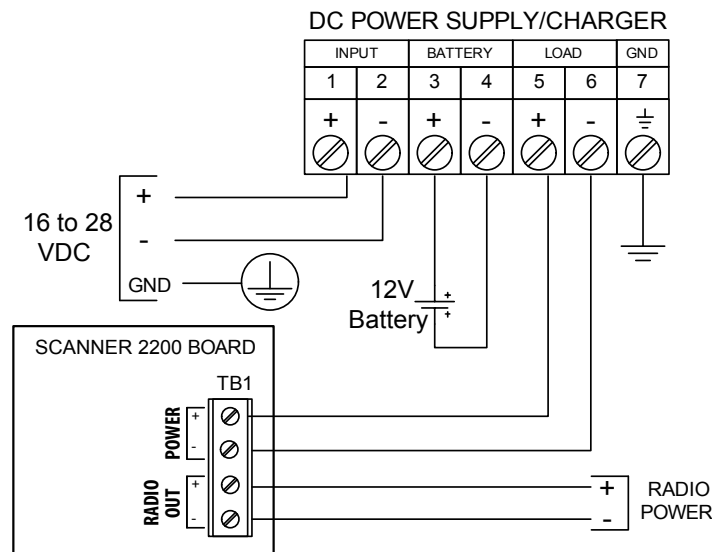
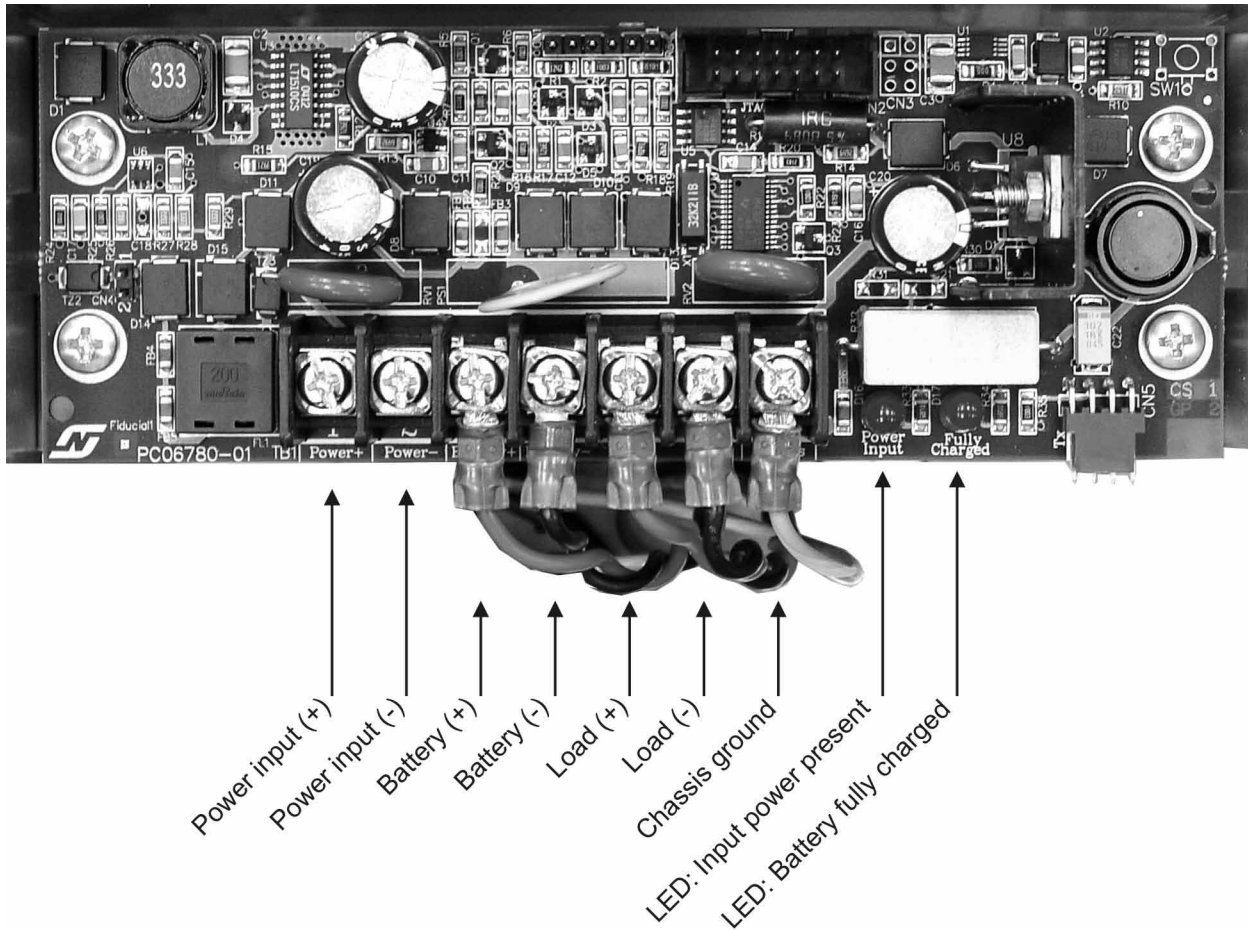

Figure 3.5—DC power supply wiring
Figure 3.6—DC power board connections
The Scanner 2200 can be connected to a remote DC power supply (Figure 3.5, page 53). The power supply and cable must be capable of supplying 16 to 28 VDC @ 1.2 A.
To install the DC power supply, follow the procedure below and reference Figure 3.5 for terminal locations. As shown in Figure 3.5, page 53, and Figure 3.6, page 54, the terminals on the power supply are numbered, 1 through 7, to indicate the order in which connections should be made. The power supply wiring is connected to terminal block TB1 on the circuit assembly.
1. Remove the TB1 plug from the circuit board (as shown in Figure 3.5, page 53).